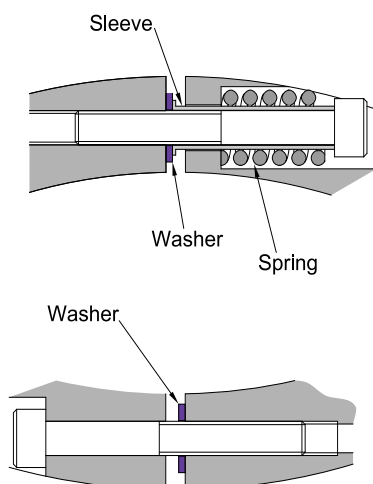

Figure 59 – Rope Guide Inner Band Spring and Sleeve Arrangement
- Figure 59 . Loosely tighten the socket head capscrew.